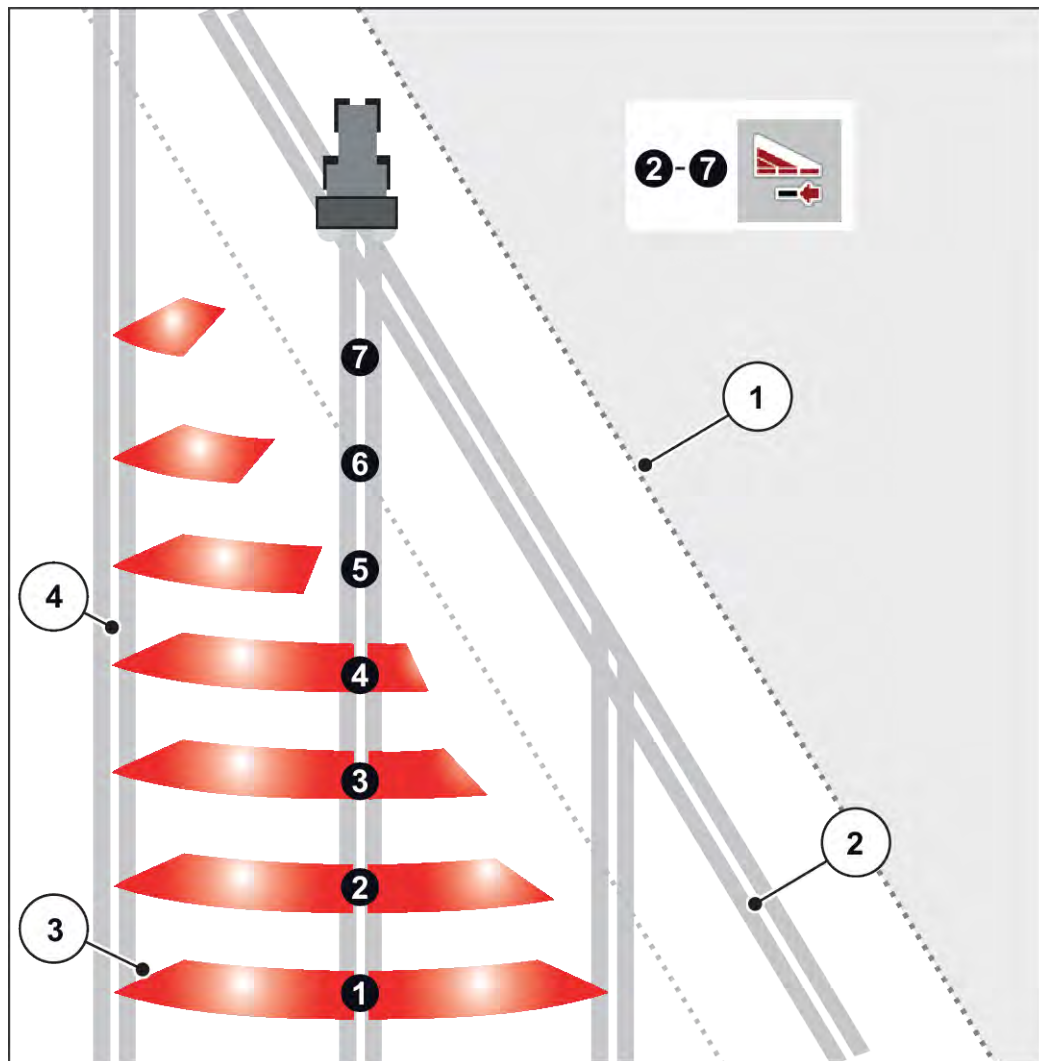

Fig. 41: Automatic section control
- Section control is possible from the outside to the inside or vice versa. See Fig. 41 Automatic section control.